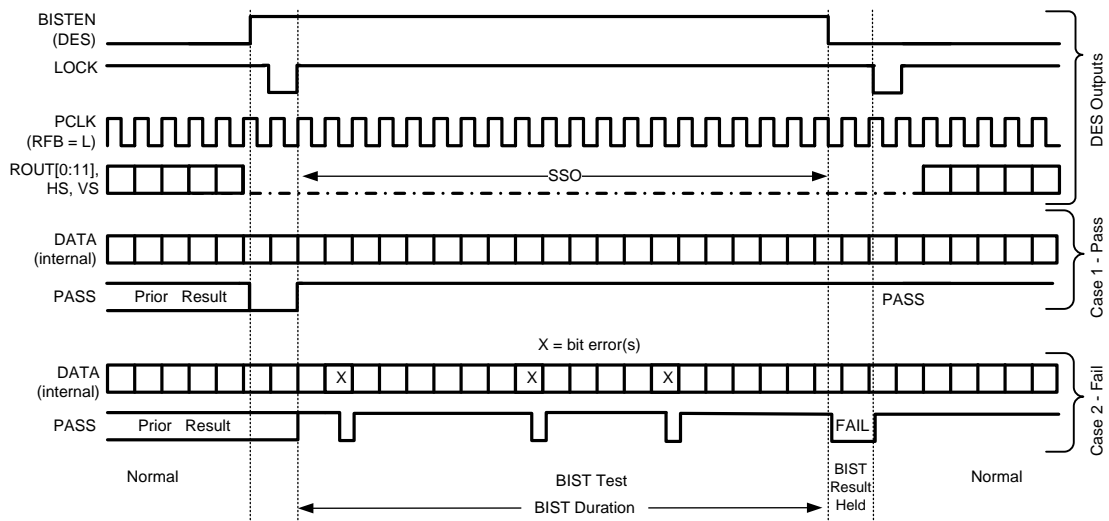

Figure 31. BIST Timing Diagram
Step 4. The link returns to normal operation after the deserializer BISTEN pin is low. Figure 31 shows the waveform diagram of a typical BIST test for two cases. Case 1 is error free, and Case 2 shows one with multiple errors. In most cases, it is difficult to generate errors due to the robustness of the link (differential data transmission etc.), thus they may be introduced by greatly extending the cable length, faulting the interconnect, or by reducing signal condition enhancements (Rx equalization).